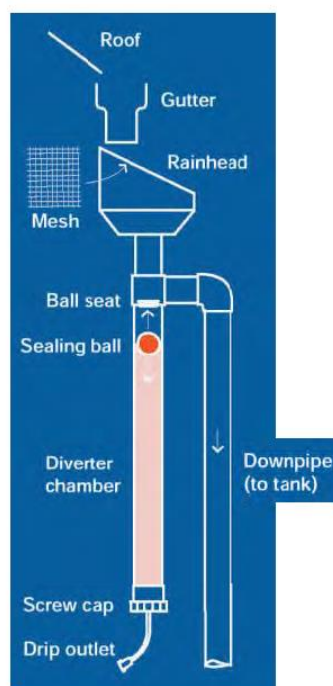

Figure 2 Rainhead and first flush diversion device. Source: City of Unley
- RAIN HEADS to downpipes to stop gutters blocking. Rain heads deflect leaves and debris and keep mosquitoes out of pipes that hold water. See Figure 2.
- WATER DIVERTER to prevent the first flush of most contaminated rainwater from entering the tank. Also known as “first flush diverters”. See Figure 2.